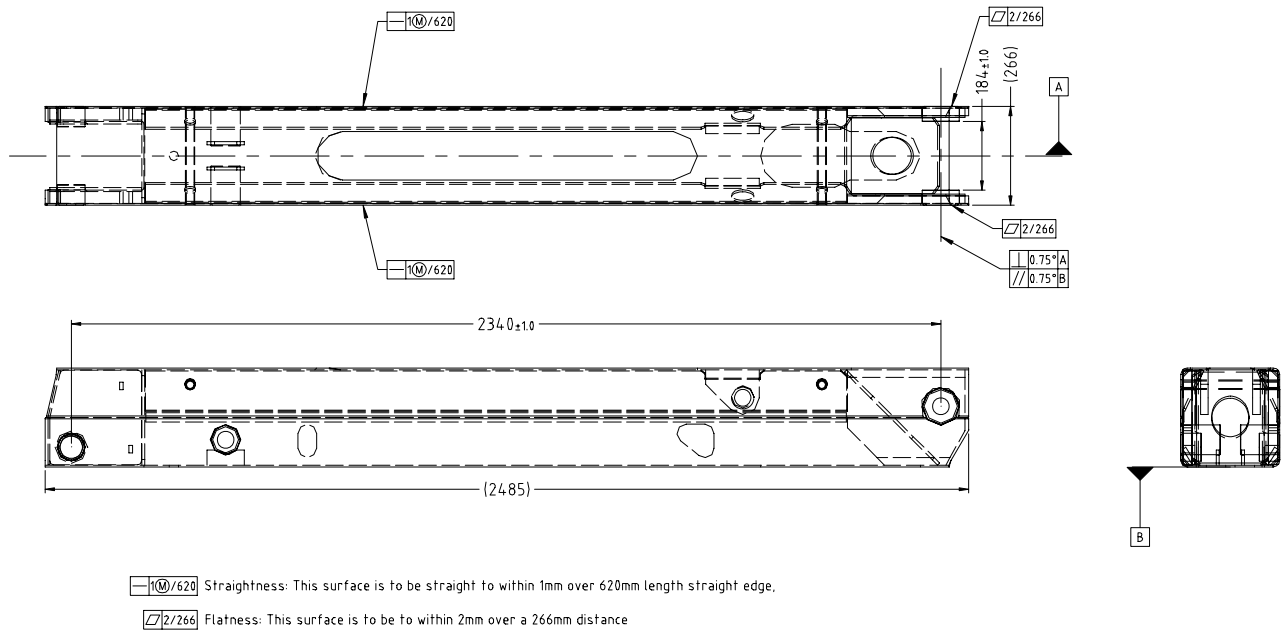
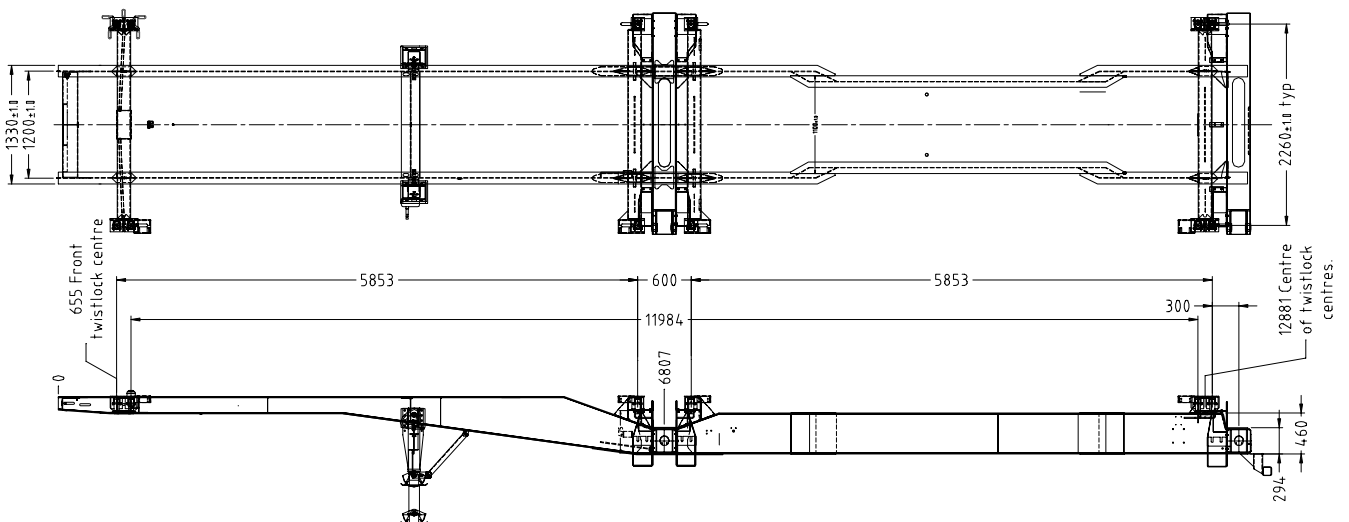

Figure 2: Straightness, flatness, perpendicularity, parallelism and dimension requirements.
Figure 3: Check measurements required along chassis.
2. Straighten pressings. The crane base pressings must conform to the dimensions and tolerances allowed in Figure 2. The H pin must be within the perpendicular and parallel tolerances stated in figure 2. If these dimensions and tolerances cannot be met then the Sidelifter repair must be done in accordance with stage 2. Note that the dimensions in parenthesis are check dimensions and have a general tolerance of $\pm 2.0\text{mm}$.
3. When straightened check the measurements of the twistlocks and centers of the crane base pressings as stated in figure 3.
6. Recheck dimensions in figure 2 and figure 3.
Carry out this section of the repair when straightening of the crane base pressings cannot conform to the requirements in figure 2, section 2 in stage 1.
1. Straighten crane base pressings to the straightness and flatness requirements in figure 2.